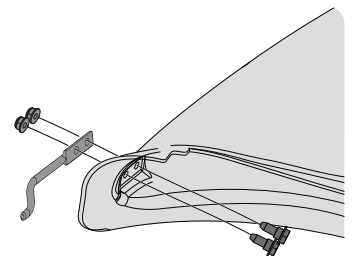

Figure 15
1. From the inside, put the two hex head screws (738-1225), from hardware pack 689-02199, through the holes at the bottom front of the boot. See Figure 15.
2. Put the mounting rod (747-06309) in place over the hex head screws. Make sure the tip of the rod is facing out from the boot. See Figure 15.
3. Begin threading the flange lock nuts (712-04064) onto the hex head screws. See Figure 15.